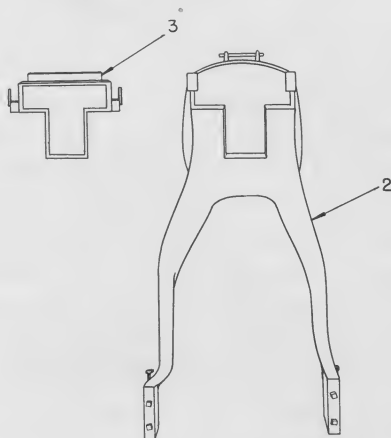

FIGURE 2—View of Pot Jacket and Lower Throat Heater Terminal Cover
**4. The Pot Jacket**—To provide clearance and accessibility to the lower throat heater a portion of the jacket has been cut away. See Fig. 2. This permits replacement of the lower throat heater without removing crucible from pot jacket. A sheet metal cover is held over this "T" cut by three screws, Fig. 2.